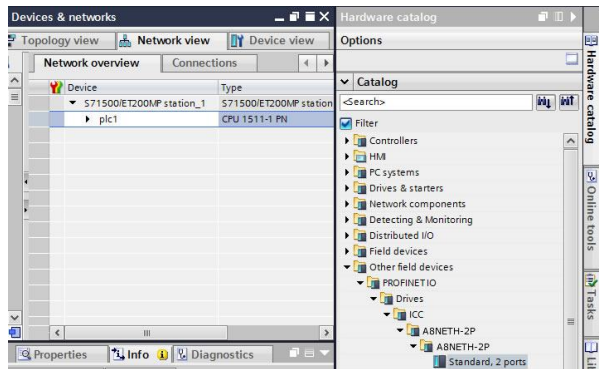

Figure 65: Updated Hardware Catalog
3. This will update the **Hardware catalog**. Locate the device in the **Hardware catalog**. In the **Project tree**, double-click on **Device & networks**. Select the **Network view** tab and locate the device in the **Hardware catalog** as shown in Figure 65.